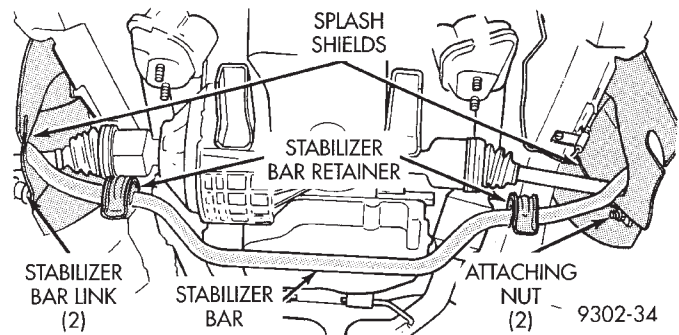

Fig. 18 Stabilizer Bar Removal And Installation
(11) After cradle assembly is removed from vehicle. Remove the 2 stabilizer bar, to stabilizer bar link attaching nuts (Fig. 18). Remove stabilizer bar assembly from vehicle.
(1) Install stabilizer bar, isolator bushings and retainers back in vehicle as an assembly (Fig. 18). Be sure stabilizer bar is installed through openings in splash shields (Fig. 18). Install the stabilizer bar link to stabilizer bar attaching nuts. Torque stabilizer bar link to stabilizer bar attaching nut to 95 N•m (70 ft. lbs.).